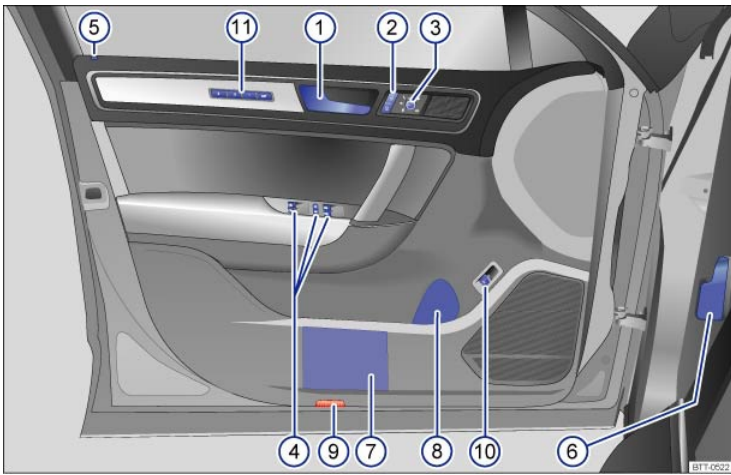

Fig. 4 Overview of controls in the driver door.
**Key to ⇒ Fig. 4 :**
- ① Door handle ⇒ *Doors*
- ② Power locking switch for locking and unlocking the vehicle ⇒ *Power locking system*
- ③ Switch for adjusting the outside mirror: ⇒ *Mirrors*
- ④ Buttons for operating the power windows: ⇒ *Power windows*
- ⑤ Indicator for power locking system ⇒ *Power locking system*